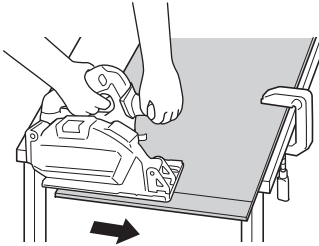
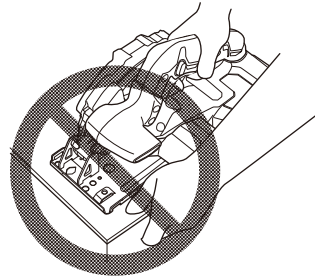

Fig. 2
Fig. 3
4. Place the wider portion of the saw base on that part of the work piece which is solidly supported, not on the section that will fall off when the cut is made. As examples, Fig. 2 illustrates the RIGHT way to cut off the end of board, and Fig. 3 the WRONG way. If the work piece is short or small, clamp it down. DON'T TRY TO HOLD SHORT PLACES BY HAND!